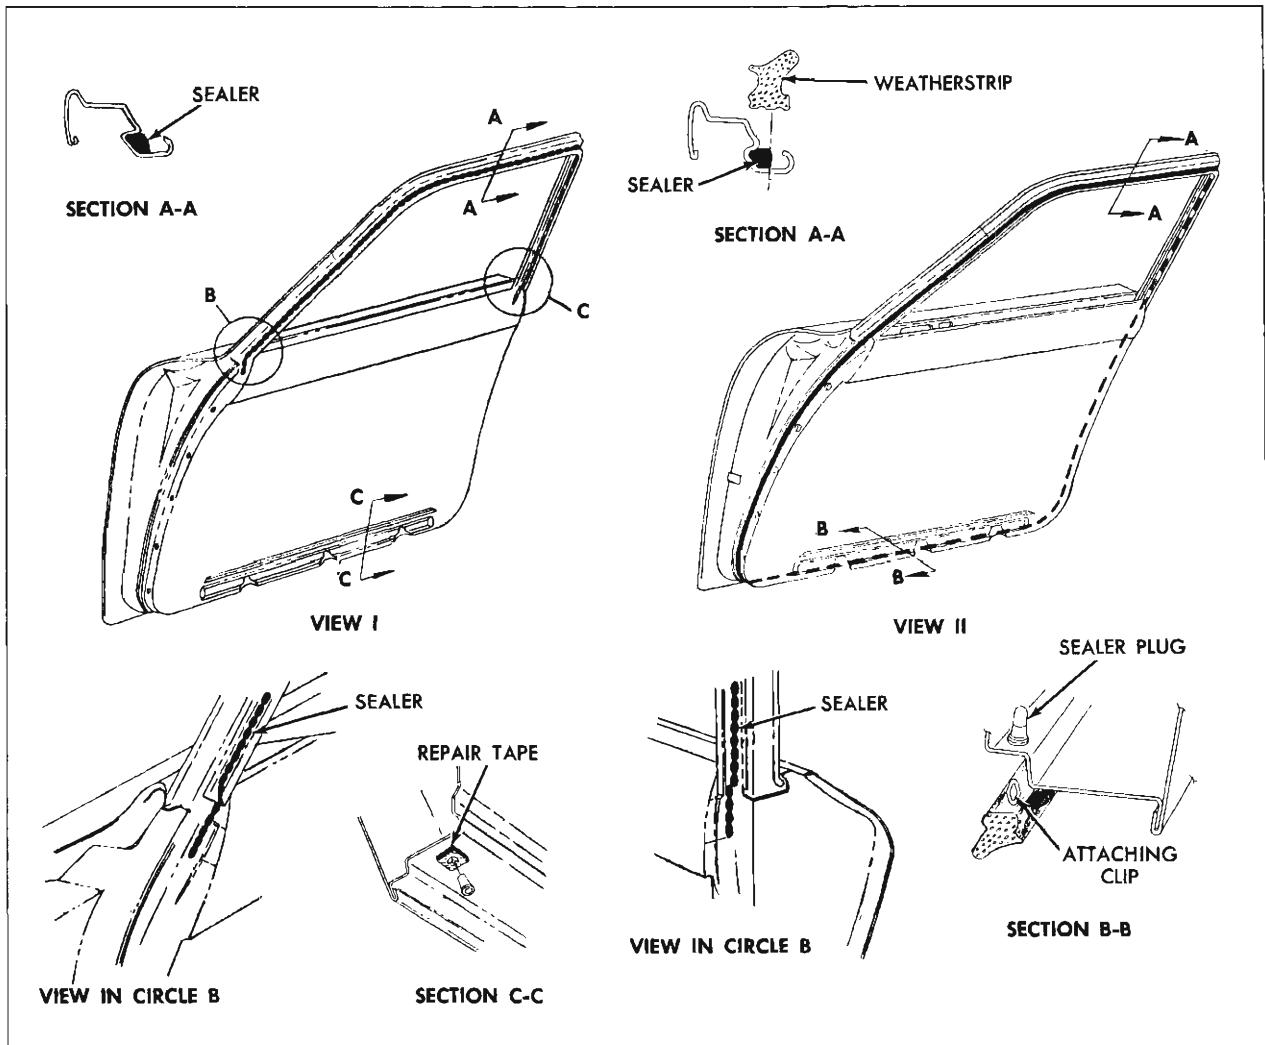
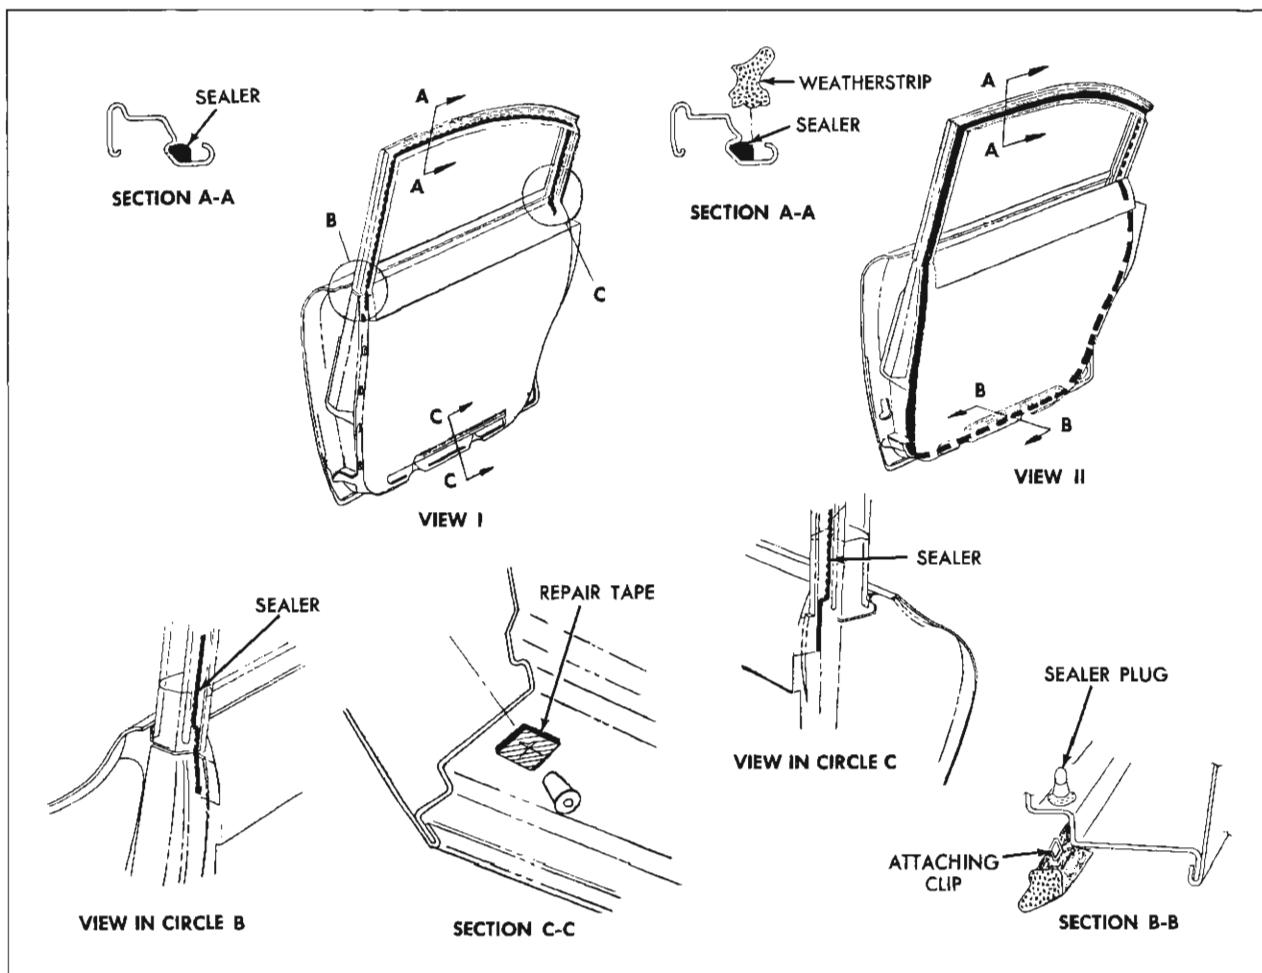
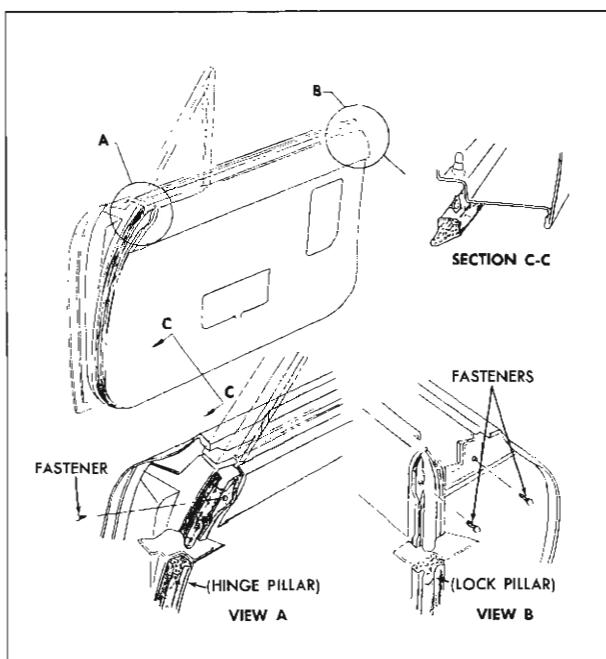

Fig. 12-7 Front Door Weatherstrips
Fig. 12-8 Rear Door Weatherstrips
Fig. 12-9 Front Door Weatherstrip Fasteners
as shown in Section "C-C" of Fig. 12-7. Make two $\frac{5}{16}$ " slits in tape to form an "X". Install plug and check for a snug fit. If plug is still loose, repeat above operation by installing a second piece of tape over existing repair. This procedure may also be used to repair waterleaks which develop at sealing plug locations (See Fig. 12-7 and Fig. 12-8).
4. Prior to installation of weatherstrip on either door, apply a continuous bead of an approved weatherstrip cement extending from approximately one (1) inch below window frame at hinge pillar section (see view "B" of view I) along entire outboard portion of door weatherstrip retaining channel (see Section "A-A" or view I) to approximately one (1) inch below lock pillar section of window frame assembly as shown in view "C" of view I (Fig. 12-7 and 12-8).
5. Starting at uppermost clip hole on either door pillar, install clips to door by placing notched end of tool J-5757 in loop of clip and pushing clip into attaching hole sealing plug. Repeat operation along both sides and bottom of door (Fig. 12-7 and 12-8, Section "B-B" in view II).
6. Using a putty knife, or other suitable flat-bladed tool, install door weatherstrip into door window frame assembly (Figs. 12-7 and 12-8, Section "A-A" in view II).
- With a screw driver, or other suitable tool, carefully snap weatherstrip fasteners, at belt line of hinge and lock pillar panels, from door (see views "A" and "B" in Fig. 12-9).
- Insert tip of tool J-5757 at clip locations and carefully snap clips from retaining plugs and remove weatherstrip from door (See Fig. 12-7 and section "C-C" in Fig. 12-9).
inner panel, install a $\frac{1}{2}'' \times 1''$ piece of cloth-backed waterproof body tape over sealing plug retaining hole as shown in section "C-C" of Fig. 12-7 and 12-8. Make two (2) $5\frac{1}{16}''$ slits in tape to form an "X" pattern. Install plug and check for a snug fit. If plug is still loose, repeat above operation by installing a second piece of tape over existing repair. This procedure may also be used to repair waterleaks that may develop at sealing plug locations.
4. Prior to installation of weatherstrip, apply a bead of an approved weatherstrip cement at top four (4) inches of hinge and lock pillar panels.